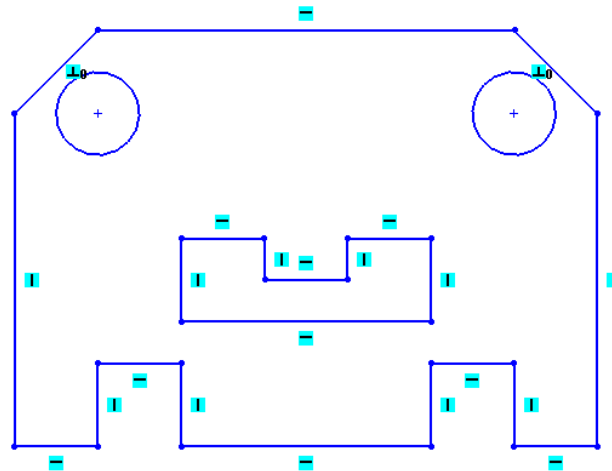

Figure 2-72 Final sketch for Tutorial 4
13. Choose the **Zoom to Fit** button from the **View (Heads-Up)** toolbar to fit the display of the sketch into the screen. The final sketch for Tutorial 4 is shown in Figure 2-72.